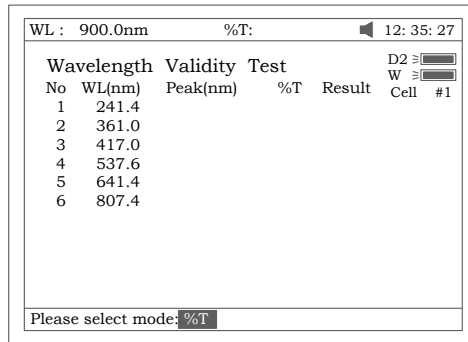

Fig 97
- Press **【F2】** to select test mode (Abs or %T, Fig 97).